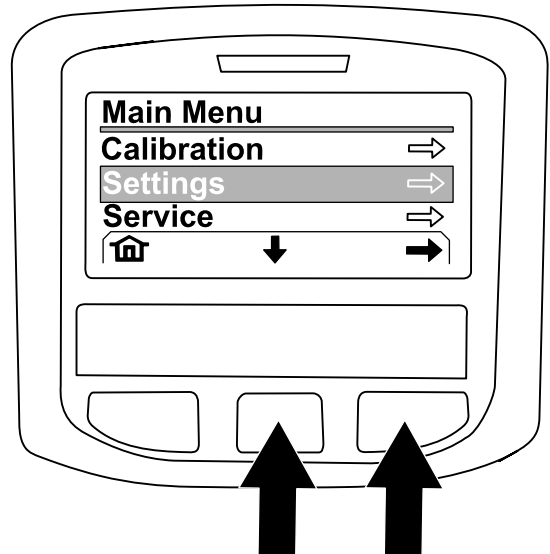

Figure 264
3. Press the center button on the InfoCenter to access the Main Menu (Figure 264).
4. At the MAIN MENU screen, press the center button to navigate to the SETTING option, and press the right button to select the option (Figure 264).